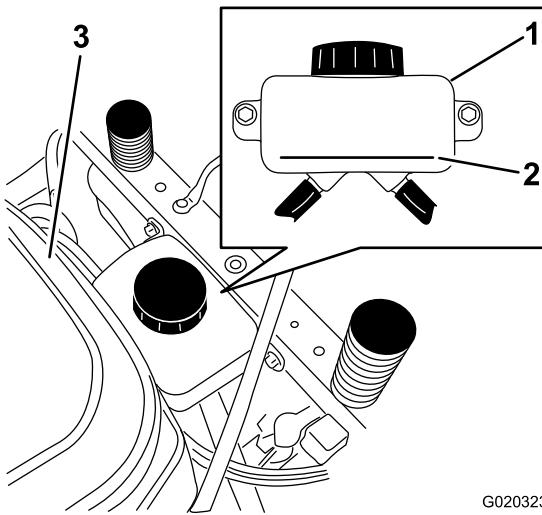
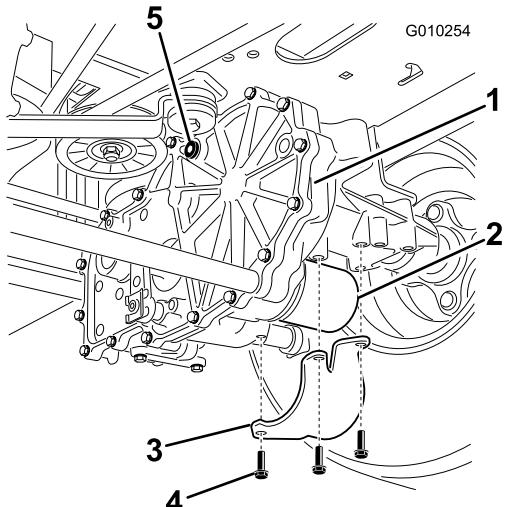

Figure 46
Figure 47
3. Locate the filter and guards on each transaxle drive system (Figure 47).
4. Remove three screws securing the filter guard and remove the guard (Figure 47).
- A. Ensure that the vent plugs and reservoir cap are removed before adding the oil (Figure 46 and Figure 47).
- B. Slowly pour the specified oil through expansion reservoir until oil comes out of **one** of the vent plug holes and stop filling (Figure 47).
- C. Install that vent plug (Figure 47).
- D. Add oil through the expansion reservoir until oil comes out of the remaining vent plug hole on the second transmission and stop filling (Figure 47).
- E. Install that vent plug (Figure 47).
7. Add oil through the expansion reservoir until it reaches the FULL COLD line on the expansion reservoir and install the cap for the reservoir (Figure 46).
6. Stop the engine and check the oil level in the expansion reservoir. Add the specified oil as until it reaches the FULL COLD line on the expansion reservoir (Figure 46).
8. Check the oil level in the expansion reservoir one last time. Add the specified oil as until it reaches the FULL COLD line on the expansion reservoir if necessary (Figure 46).